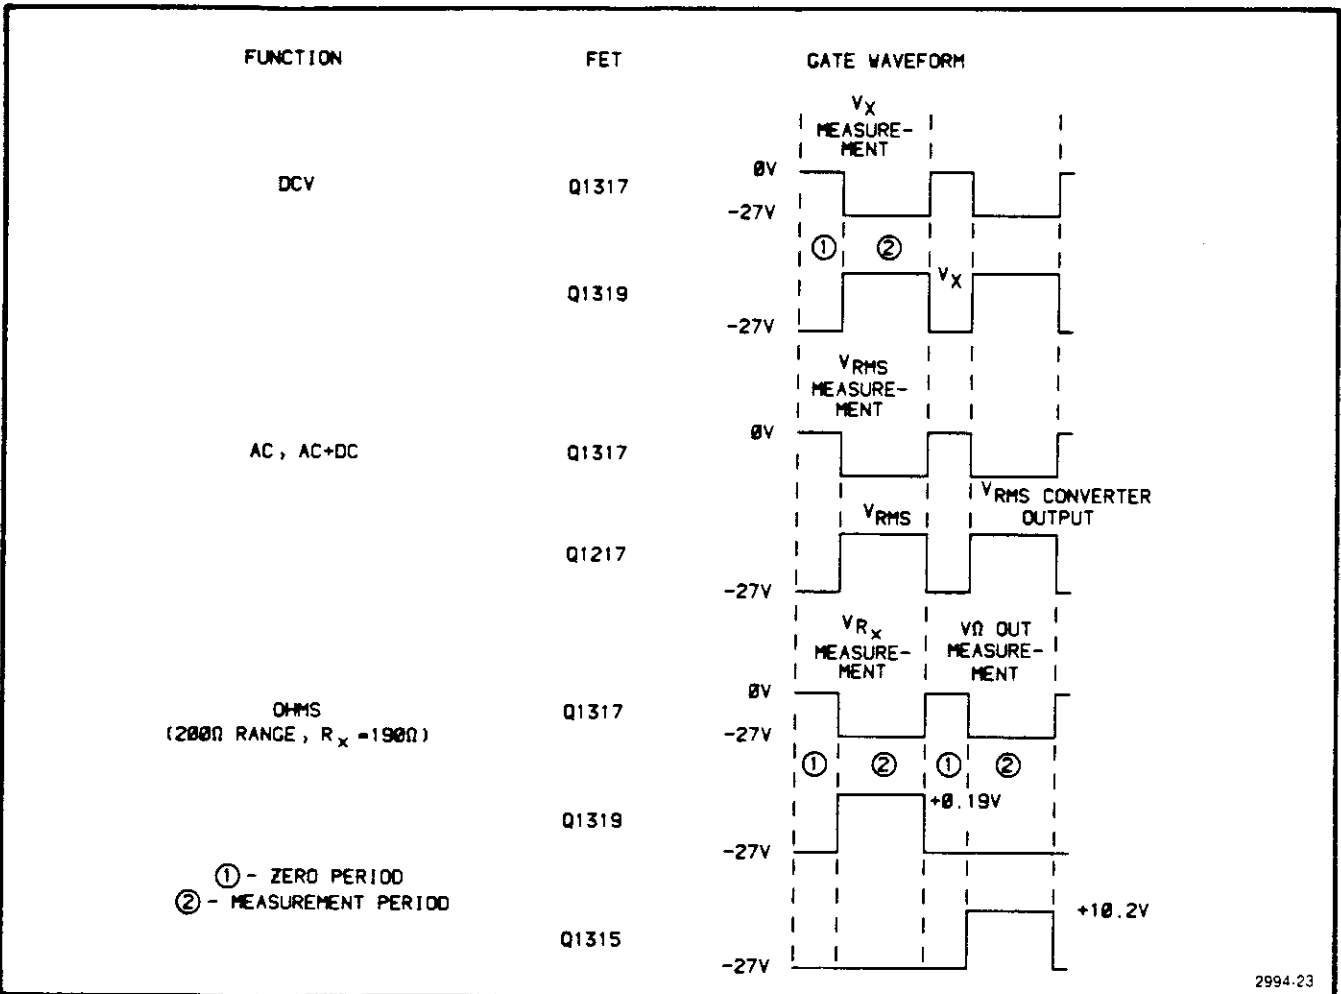

Fig. 7-8. FET Gate timing diagram.
c. Check the FET gate waveforms shown in Fig. 7-8 for the indicated FETs with 0 V applied to the DM 5010 input. Set the DM 5010 settings to the power-on states.